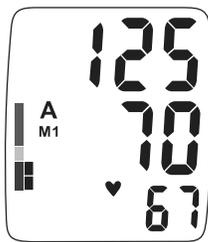

Fig.9
2.After a measurement is finished or when the device is in standby mode, the user can press button 'M1' or button 'M2' to recall memory. Press button 'M1', the display will show the average value of the latest 3 readings as Fig.9;